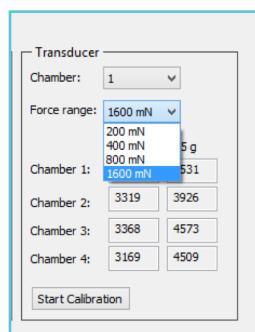

Figure 47: Selection of Force range for the isometric Force transducer
- Transducer menu:** The Force range can be set at max 200mN, 400mN, 800mN and 1600mN. Select the given chamber and the appropriate Force Range for your type of tissue (figure 47).